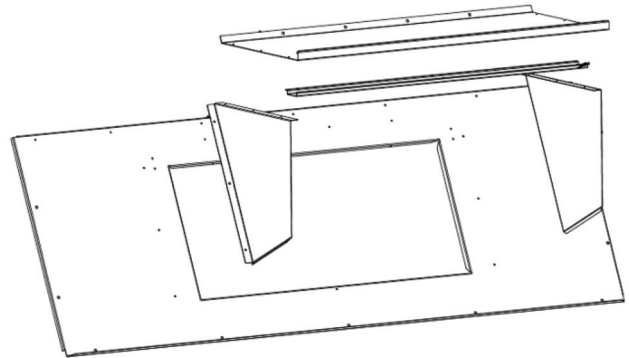

Fig. 21 — Barometric Hood, Exploded View
3. Install parts as shown in the exploded view shown in Fig. 21, using the seal strip and screws provided in the parts box.